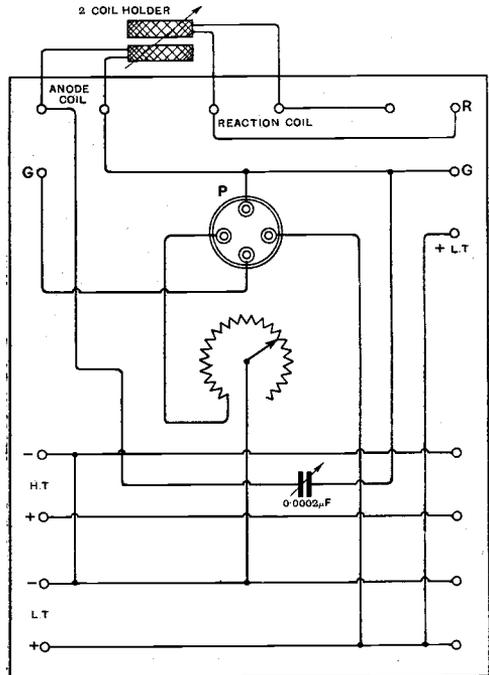

Fig. 2. "ROY" (Solworth). Connections of a H.F. amplifier suitable for adding to the receiver given in the issue of May 26th.
(1) Basket coils are quite suitable for use in a crystal receiver. (2) A number of diagrams have been given recently. The aerial tuning inductance may consist of three basket coils in series, each being wound with 80 turns of No. 26 D.C.C. wire on formers 1 1/2" in diameter. The closed circuit inductance may consist of four such coils in series.
(3) The basket coils may be mounted in a holder similar to that used for plug-in honeycomb type coils, or one may be mounted on a pivoted arm to swing over the other. See recent issues.
"ROY" (Solworth) asks, with reference to Fig. 2 on page 257 of the issue of May 26th (1) For a diagram of a tuned anode H.F. unit to use with this receiver, employing a two-coil holder for the anode and reaction coils.
(1) The diagram is given in Fig. 2.